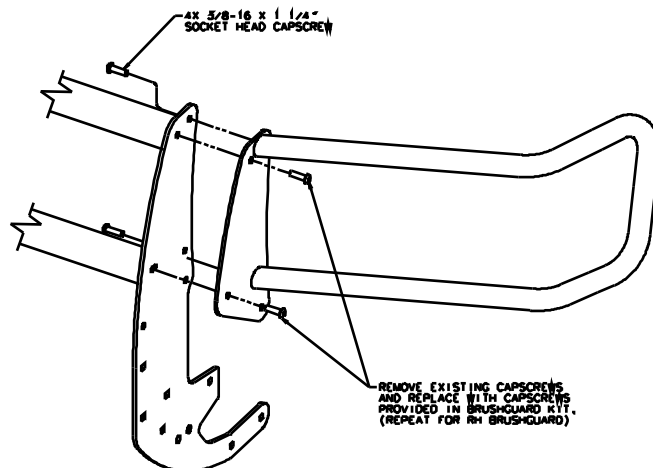

FIGURE 2 LH Brush Guard (Black Kit – one piece)
2. Hold the left Brush Guard in position and install a 3/8 x 1-1/4” button head screw through the Brush Guard End Plate and Side Member into the corresponding Grille Guard Tube. Do not tighten. **See Figure 2.** Align the Brush Guard and install the second screw.